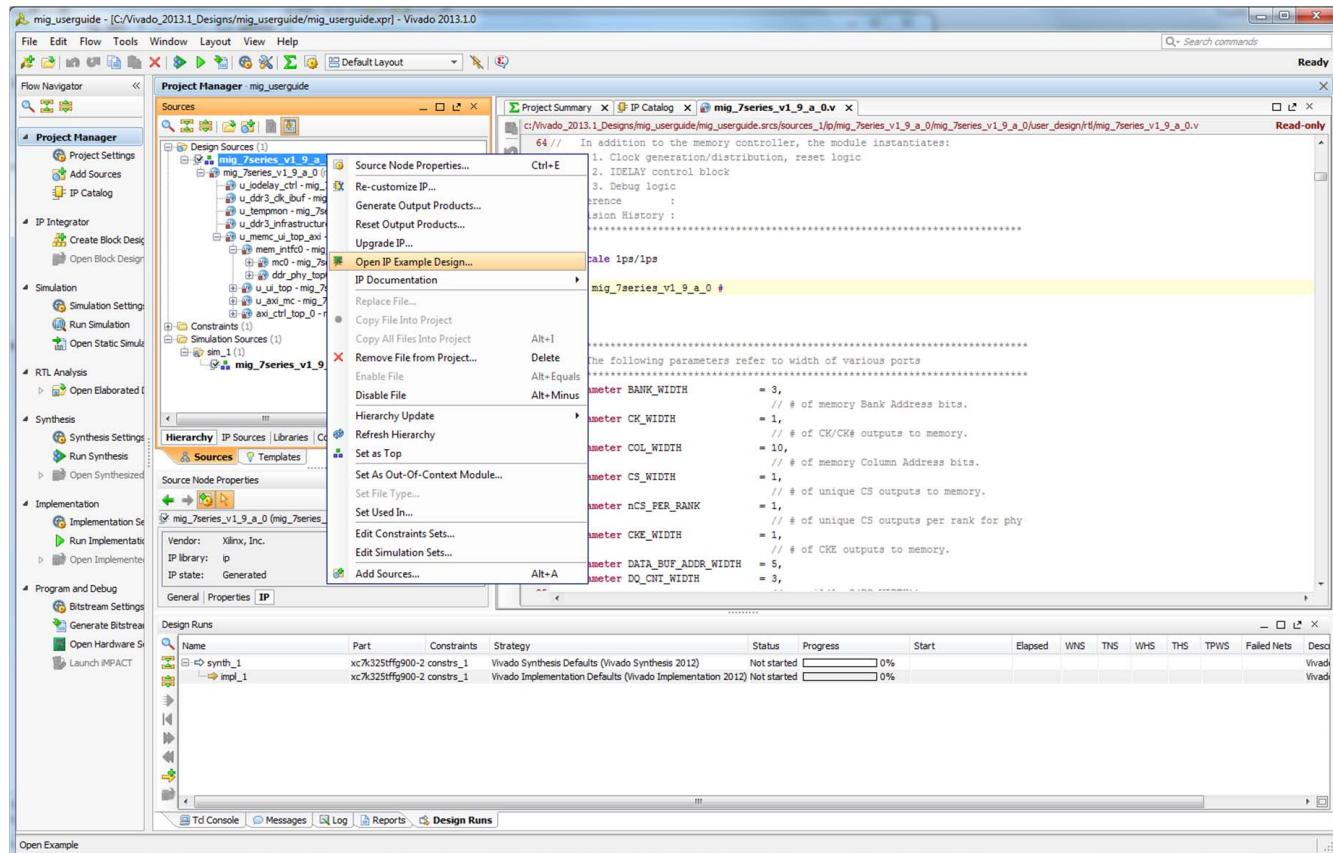

Figure 6-19: Open IP Example Design
19. Vivado Supports Open IP Example Design flow. To create the example design using this flow right-click on the IP in the Source Window, as shown in Figure 6-19 and select.